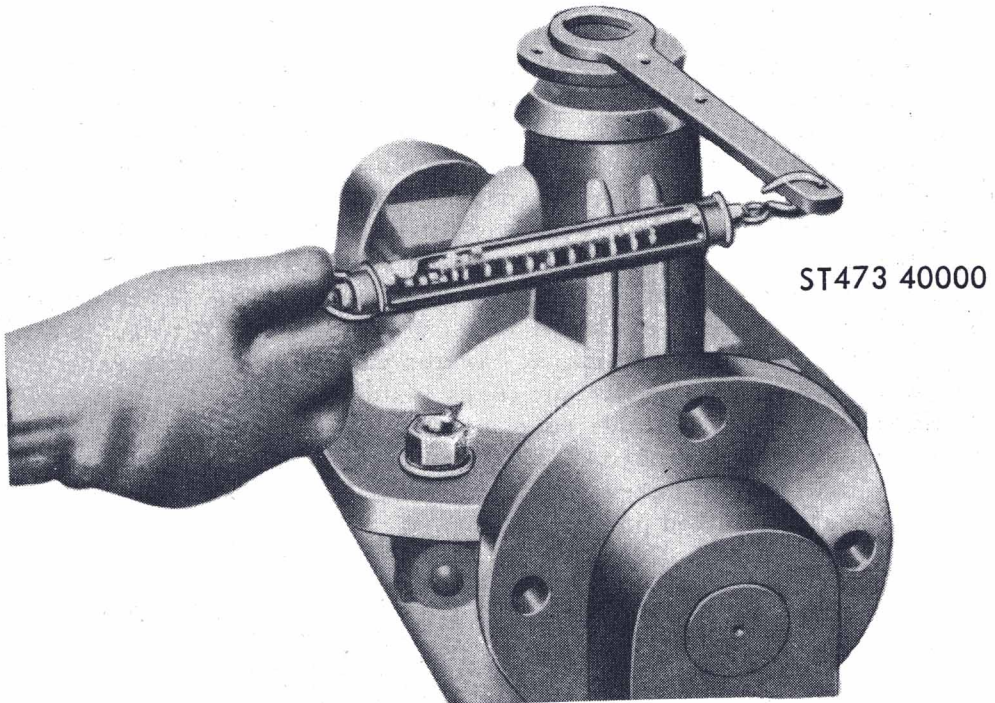

Fig. 11
- (5) The formal adjustment of the drive pinion, bearing and pre-load. After the fixing position of drive pinion is decided as mentioned in the previous paragraph, take off the pinion nut & companion flange to mount again the drive pinion bearing spacer (distance piece) and nut. Tighten up the nut as Fig. 11 by using torque wrench at the regular torque of 100-120ft./per lbs. The preload supportedly the bearing in this case is different according to the condition of the bearing adjusting shim inserted. The more of the shim inserted, much the play of pinion to the direction of axle is increased. The less of the shim inserted, the more the bearing tightened by the previously mentioned nuts and cause it to be burned if left and turned as it is. Therefore, for readjustment of the bearing preload in this case, it must be adjusted by increasing or decreasing the number of four kinds of *